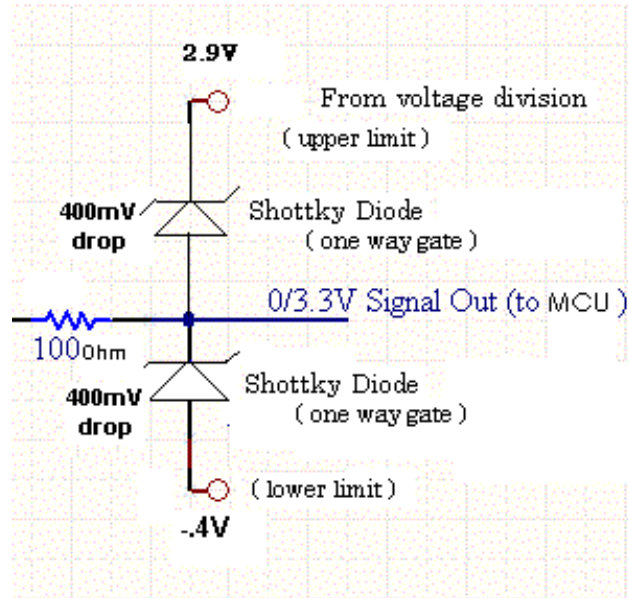

Figure 8.3: Schottky Diode Protection Circuit
4. Connect a 100Ω resistor to the output of the low pass filter, and connect the voltage surge protection circuit with two Schottky rectifiers as shown in Figure 8.3.